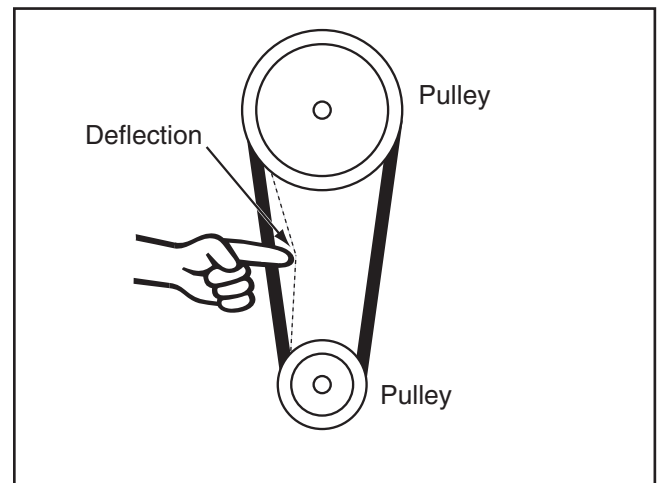

Figure 44. Belt deflection.
2. Push the center of each V-belt as illustrated in **Figure 44**, using moderate force. When tensioned correctly, the deflection should be about 1/4".